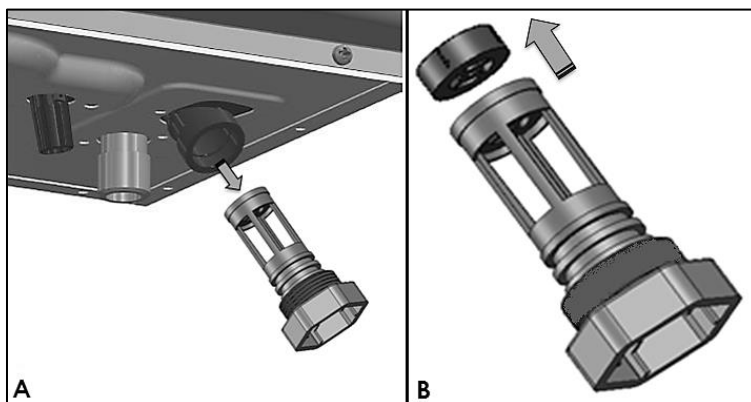

Figure 6 – A – Removing the DHW Inlet Filter, B – Removing the Flow Restrictor
2. Pull the two pins to release the DHW inlet filter. See Figure 6-A. The flow restrictor is attached to the top of the filter assembly.
3. Remove the installed white flow restrictor and replace it with the blue flow restrictor included with the appliance. See Figure 6-B.